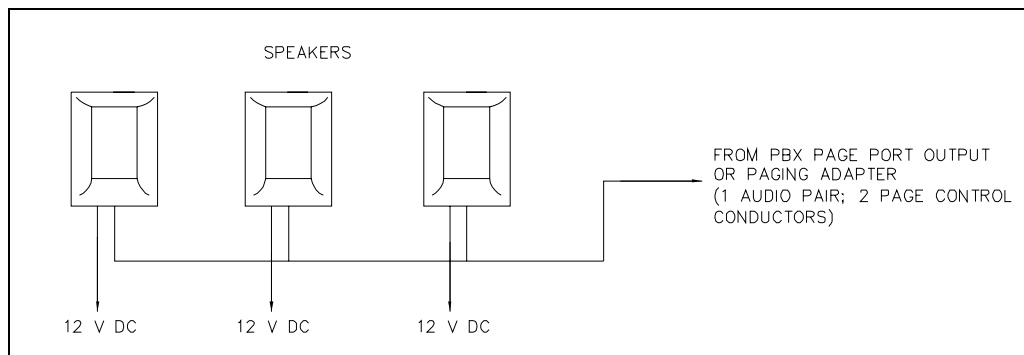

Figure 6.
**NOTE: For Model 13352 only** - The audio pair and page control conductors should be connected in parallel between all controlled speakers as indicated in Figure 6 below.